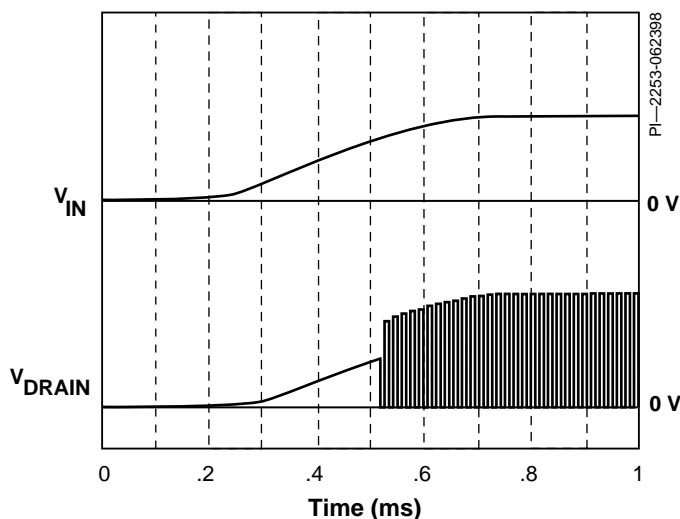
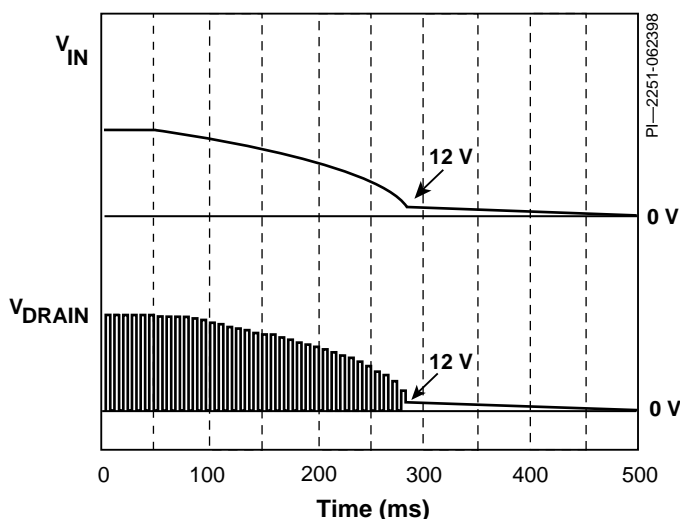

Figure 7. TinySwitch Power-Up Timing Diagram.
Figure 8. TinySwitch Power Down Timing Diagram.
*TinySwitch* requires only a 0.1  $\mu$ F capacitor on the BYPASS pin. Because of the small size of this capacitor, the power-up delay is kept to an absolute minimum, typically 0.3 ms (Figure 7). Due to the fast nature of the ON/OFF feedback, there is no overshoot at the power supply output. During power-down, the power MOSFET will switch until the rectified line voltage drops to approximately 12 V. The power MOSFET will then remain off without any glitches (Figure 8).